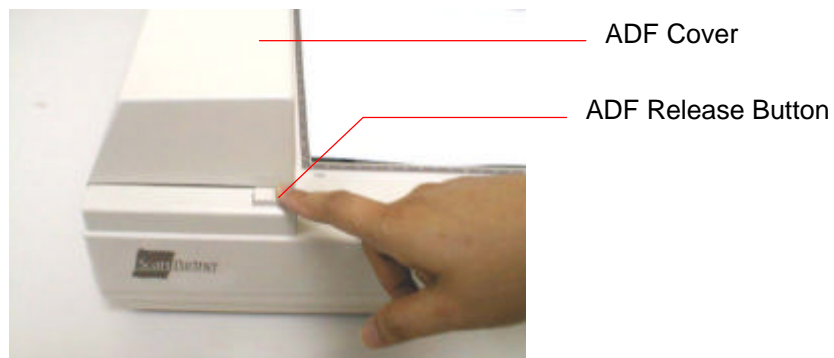

Figure 4-1 ADF Paper Jam - Opening the ADF.
- i). Press the ADF Release Button at the front left of the scanner as shown in Figure 4-1. The ADF cover will be released.